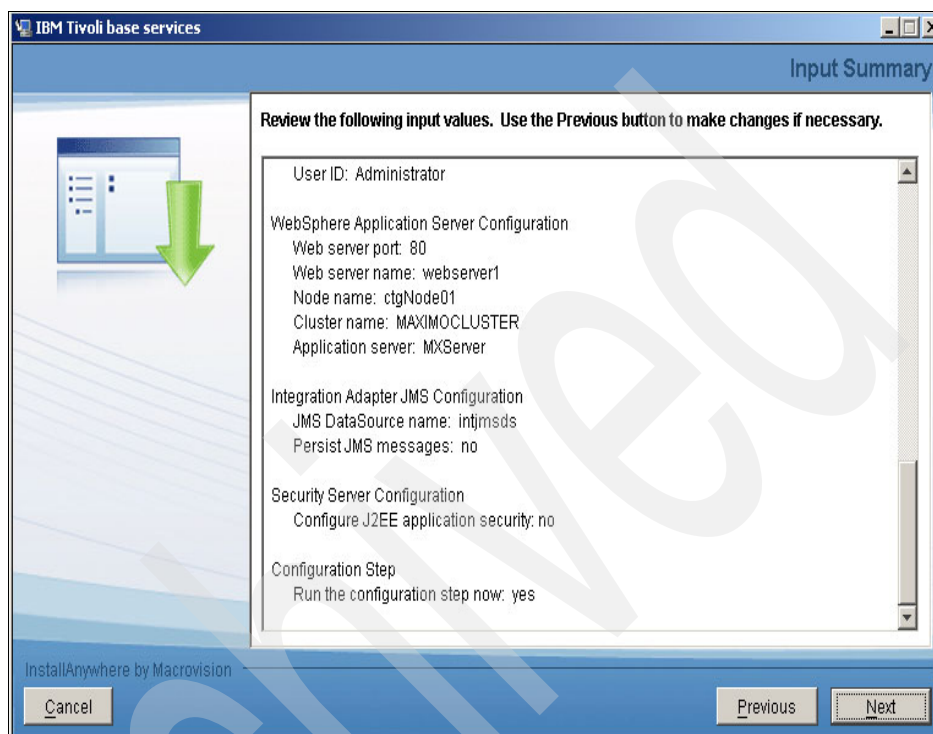

Figure 5-21 Input Summary
16. From the Input Summary panel (see Figure 5-21), review the information you have provided to the Maximo Asset Management installation program, and then click **Next**.